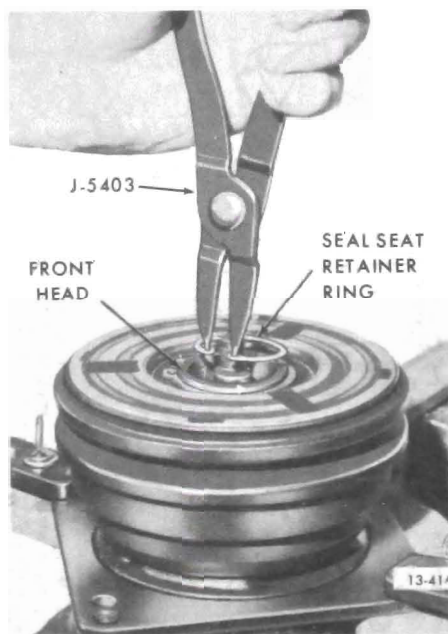

Figure 13-64 Removing or Installing Shaft Seal Seat Retaining Ring
5. If compressor has an absorbent sleeve in the neck, pry out the sleeve retainer and remove the sleeve. Remove the seal seat retainer ring, using No. 21 Truarc pliers, Tool J-5403, (see Figure 13-64).